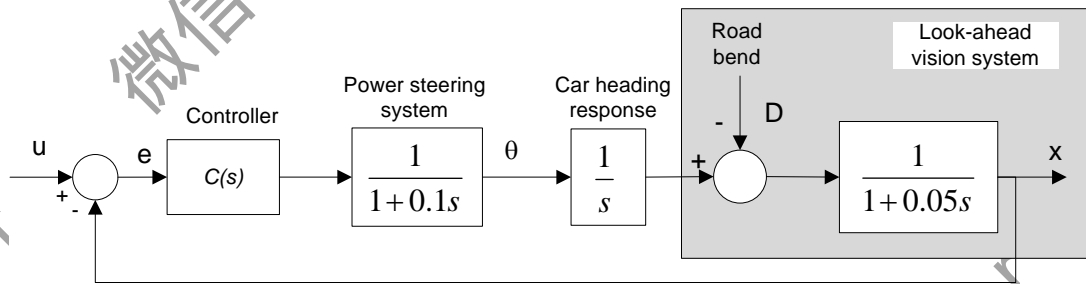

Figure Q6
6. The steering system of an experimental self-driving car was designed for automated cruising along the motorway. It uses a vision system to estimate the deviation x of the car from the centreline of the motorway lane. The signals u , D , x and e are measured in pixels of the look-ahead camera. The simplified closed loop control system is shown in Figure Q6. The control design requirements are that the system should have a phase margin $PM=60^\circ$, and a corresponding gain margin $GM \geq 10\text{dB}$.